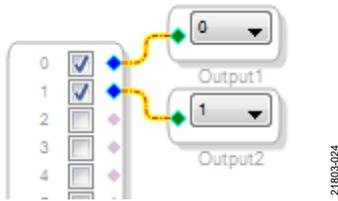

Figure 24. Signal Flow with Two Analog Inputs and Two Analog Outputs Connected
- To connect each **Input1** channel to the corresponding output block, click and drag a line representing a wire between the blue pin of the **Input1** block and the green pin of the corresponding output block (see Figure 24). **Input1** Channel 0 connects to **Output1** Channel 0 and **Input1** Channel 1 connects to **Output2** Channel 1.